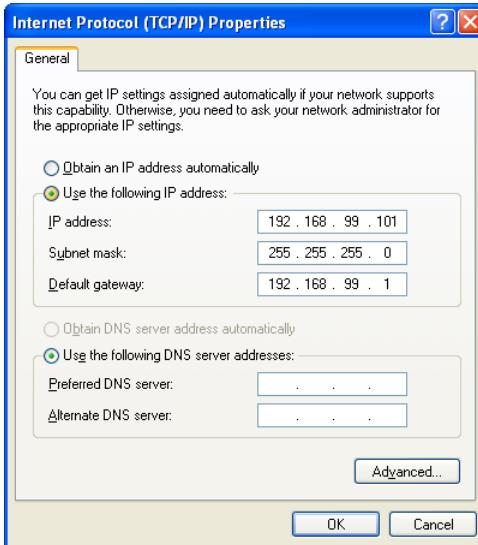

Figure 3-2: Configuring the static IP address
5. Enter the following configuration, see Figure 3-2.